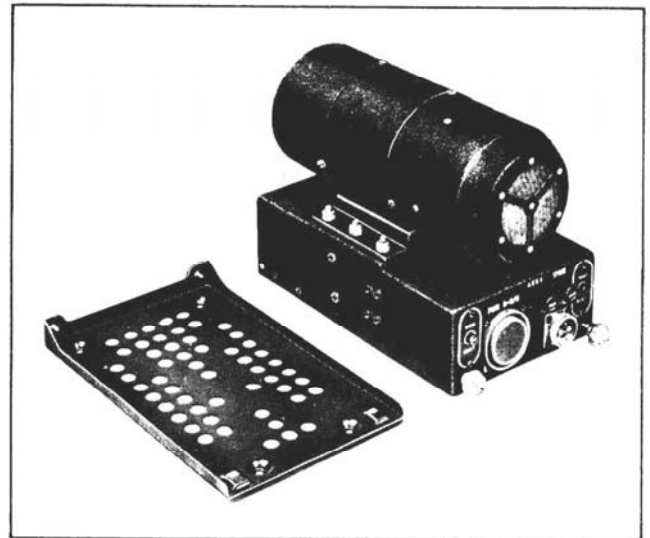

Figure 2-9—Dynamotor Unit DY-17/ART-13A with Mounting Plate MT-164/ART-13
(1) Safety wire Dynamotor Unit DY-11/ART-13, DY-12/ART-13, or DY-12A/ART-13 by wiring the two locking knobs together. See figure 2-9.